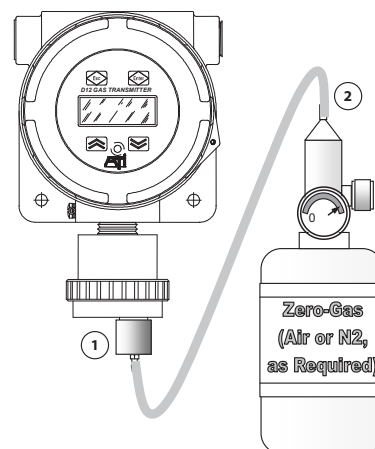

Figure 38: Sensor zero cal setup
Referring to Figure 38, push the calibration adapter onto the exposed end of the sensor and connect one end of the tubing (1), and connect the other end of tubing to the cylinder's regulator (2).